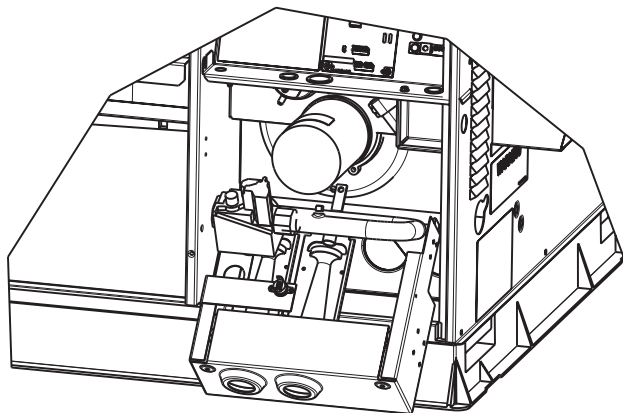

Fig. 29 – Burner Rack Removed
3. Slide the assembly out of the unit. (See Fig. 29). Clean the blower wheel. If additional cleaning is required, continue with Steps 4 and 5.
8. Partially slide the burner rack out of the unit (see Fig. 26 and Fig. 29). Remove ignitor and sensor wires at the burner assembly. Remove wires to rollout switch.
9. Slide the burner rack out of the unit (See Fig. 26 and Fig. 29).